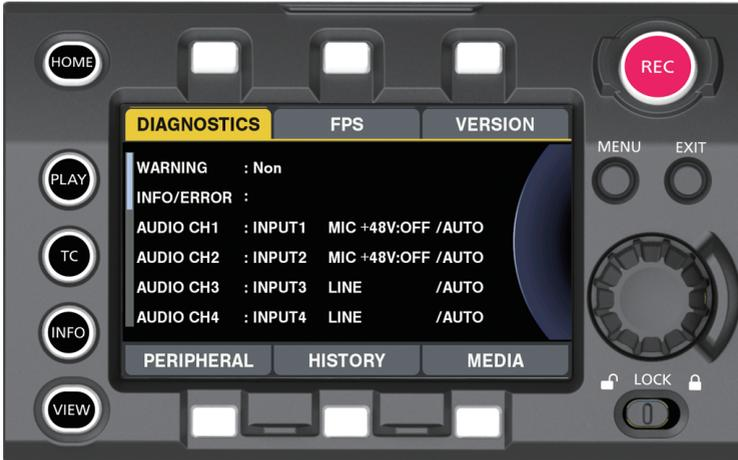

Fig. 1
- 5 Press the <INFO> button to display the INFO screen. (Fig. 1)